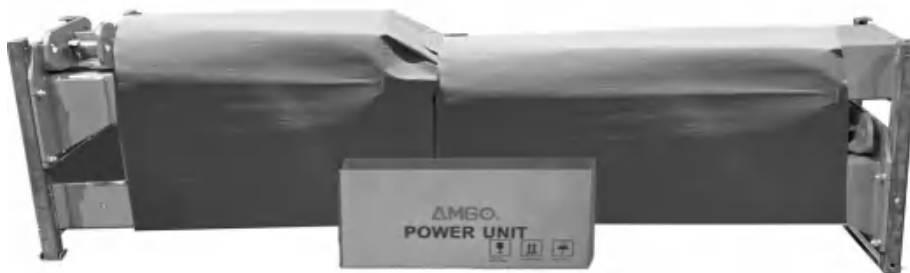

Fig. 11
1. Packaged lift and hydraulic power unit (See Fig. 11).